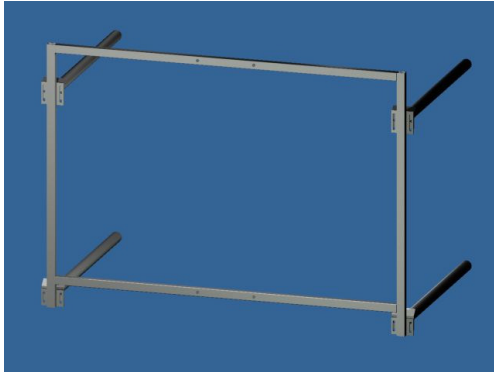

Figure 4. Attach AAG mounting frame to extension tubes.
- 4) While assembling the AAG on the ground, the AAG mounting frame can be installed on the ends of the extension tubes. Utilize eight of the 3/8"-16 x 1 1/4" hex head bolts with washers and Whiz-Lock nuts to attach the support plates of the frame to the end brackets of the extension tubes (refer to figure 4).